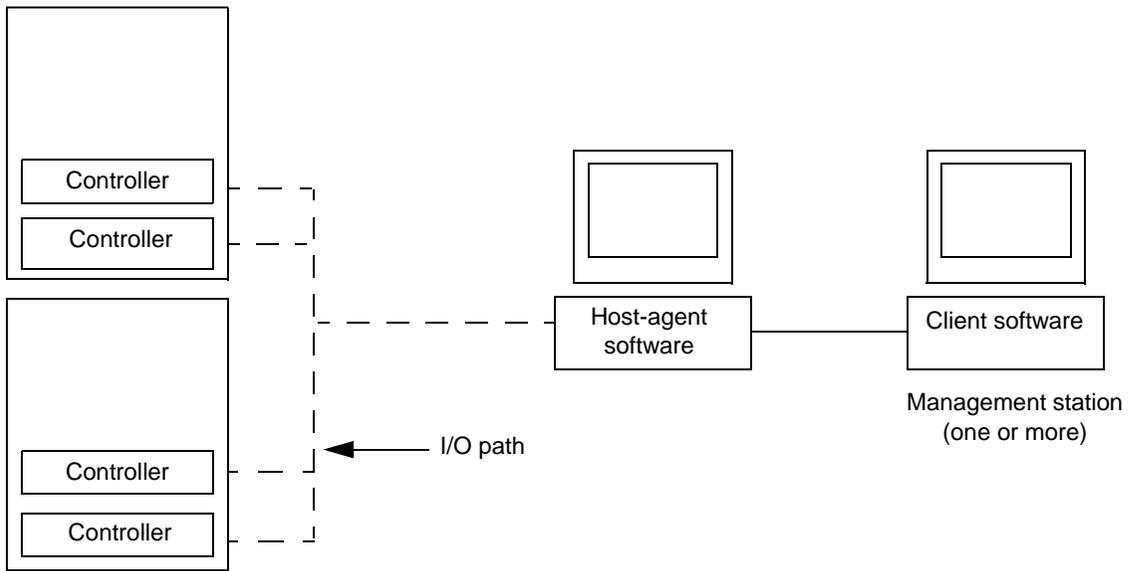
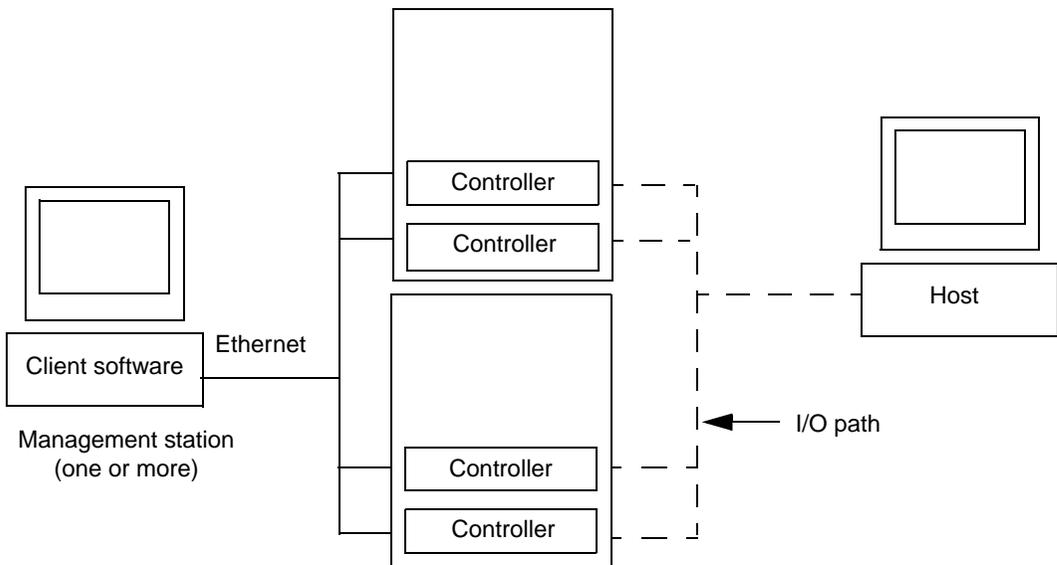

Figure 4. Host-agent managed storage subsystems
Figure 5. Direct-managed storage subsystems
- Fibre Channel (FC) and Ethernet interface cables and cable straps
- 5 Install additional hardware, based on the method of storage subsystem management. You can manage the storage subsystems using the host-agent method, as shown in Figure 4 on page 7 or the direct-managed method, as shown in Figure 5 on page 7.